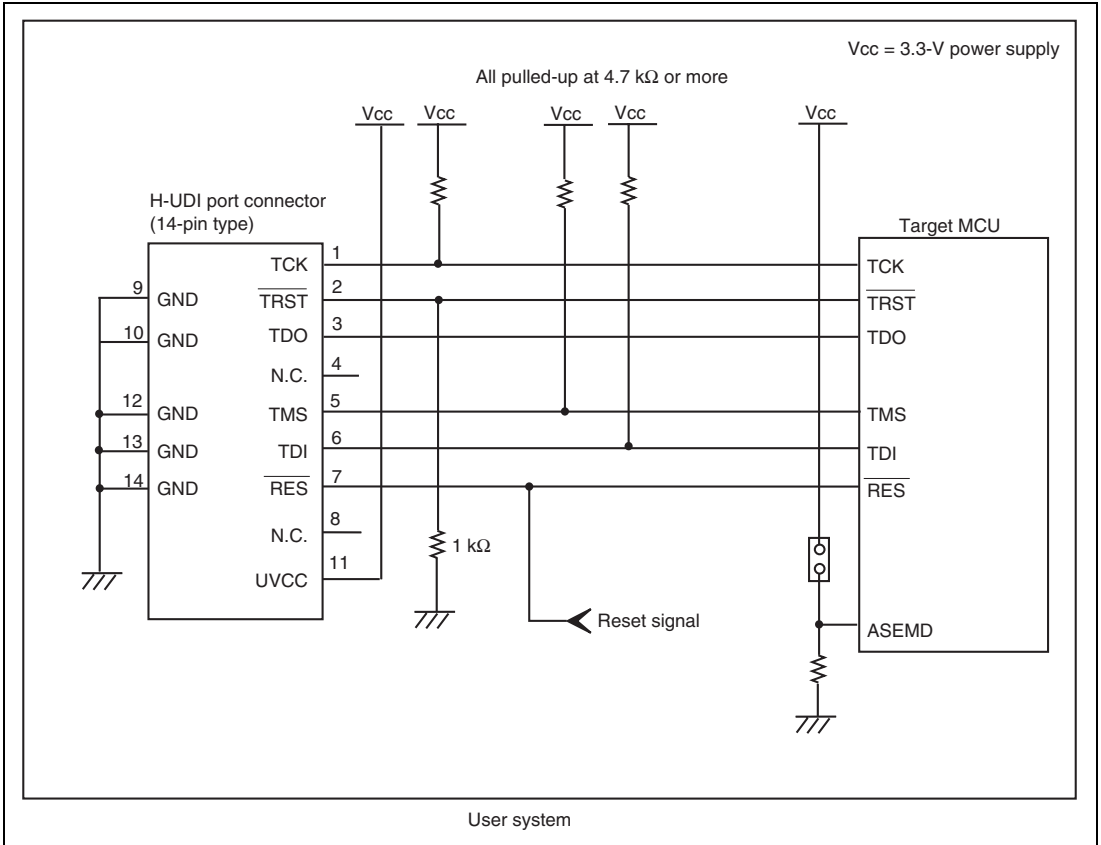

Figure 1.6 Recommended Circuit for Connection between the H-UDI Port Connector and MCU when the Emulator is in Use (14-Pin Type)
Figure 1.6 shows a recommended circuit for connection between the H-UDI port connector (14 pins) and the MCU when the emulator is in use.
- (1) When the emulator is used: ASEMD = 1
- (2) When the emulator is not used: ASEMD = 0Figure 1.6 shows an example of circuits that allow the ASEMD pin to be changed by switches, etc.
6. The resistance value shown in figure 1.6 is for reference.
When the circuit is connected as shown in figure 1.6, the switches of the emulator are set as SW2 = 1 and SW3 = 1. For details, refer to section 3.8, Setting the DIP Switches, in the SuperH™ Family E10A-USB Emulator User's Manual.